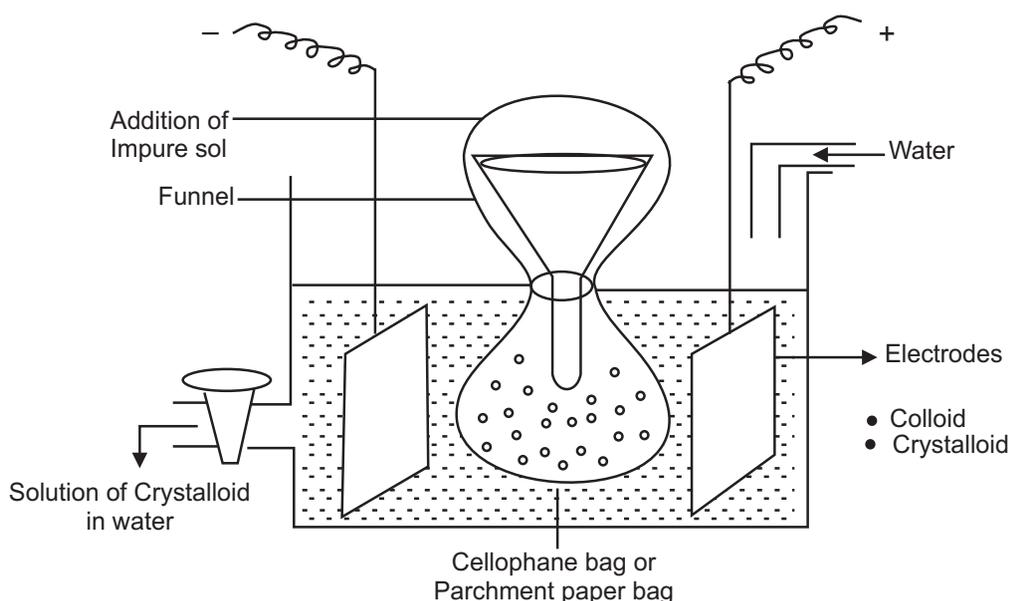

Fig. 8.4 : Electro dialysis
**Electrodialysis :** The dialysis process is slow and to speed up its rate, it is carried out in the presence of an electrical field. When the electric field is applied through the electrodes, the ions of the electrolyte present as impurity diffuse towards oppositely charged electrodes at a fast rate. The dialysis carried out in the presence of electric field is known as electro dialysis (Fig. 8.4).